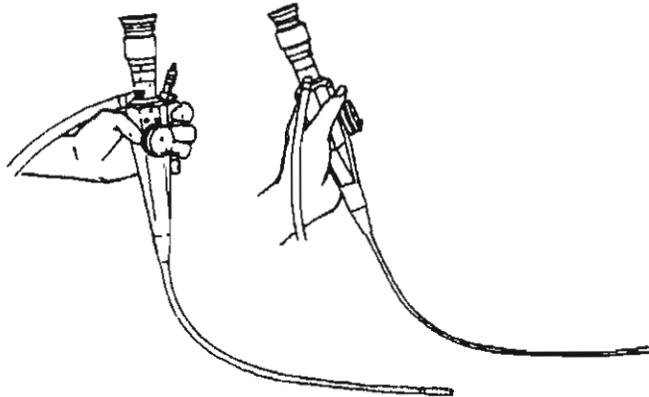

Figure 3-5. Torque test.
- (1) Hold the fiberoptic bronchoscope in your left hand as illustrated in figure 3-5.